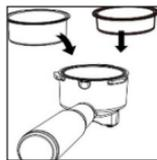

Рис. 3
- To rinse the coffee maker, fill the tank (8) and the container (12) with water and install them to their places.
- Install one of the coffee filters (23) into the filter holder (4) matching the ledge on the filter (23) with the hole on the holder (4) and turn the filter (23)
counter/clockwise (fig. 3). During rinsing the coffee maker do not add ground coffee into the filter (23).